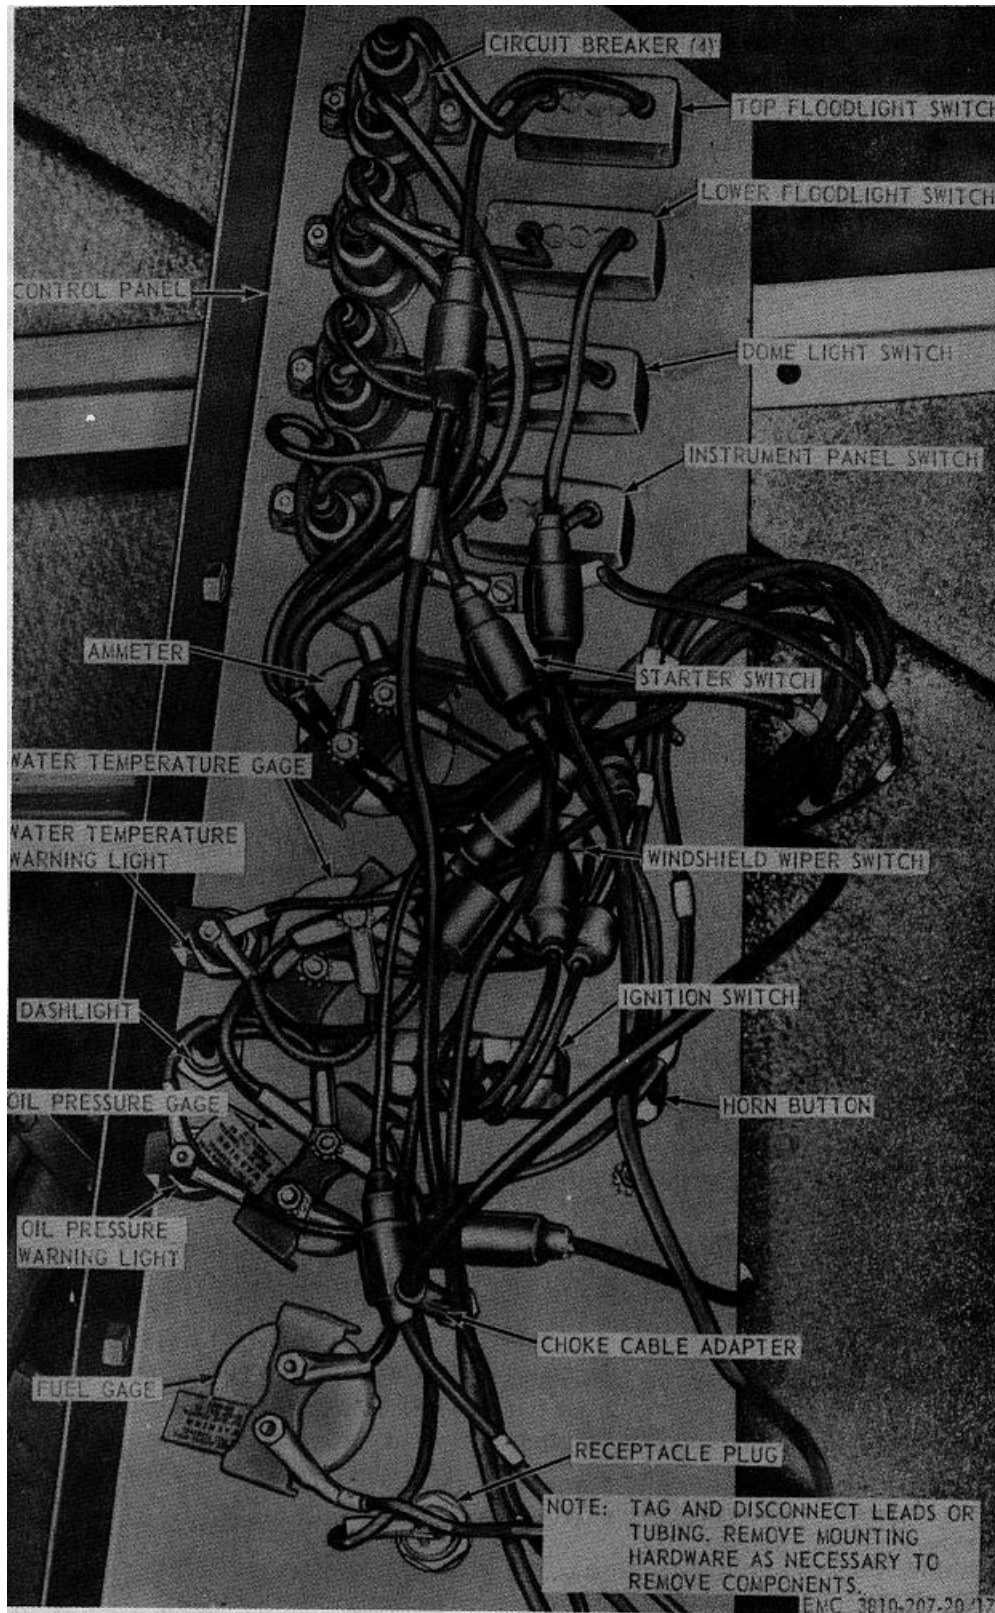

Figure 17. Instrument panel and components, removal and installation.
a. Removal. Remove the instrument panel components as instructed on figure 17.
c. Installation. Install the instrument panel components as illustrated on figure 17.
a. Removal. Remove the oil pressure sending unit, safety switch, and pressure switch as instructed on figures 17 and 18.
c. Installation. Install the oil pressure sending unit, safety switch, and oil pressure switch as illustrated on figures 17 and 18.
a. Removal. Remove the water temperature sending units as instructed on figures 17 and 19.
c. Installation. Install the water temperature sending units as illustrated on figures 17 and 19.
a. Removal. Remove the fuel tank sending unit as instructed on figures 17 and 20.
c. Installation. Install the fuel tank sending unit as illustrated on figures 17 and 20.
- b. Check and replace horn button as illustrated on figure 17.
- b. Check and replace switch as illustrated on figure 17.